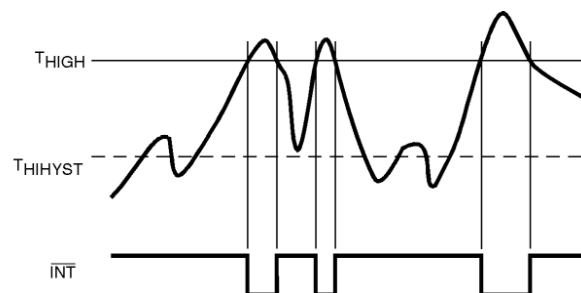

Figure 21. Normal Comparator Mode
**Normal Comparator Mode** is shown in Figure 21 and operates in the following way:  $\overline{T\_CRIT\_A}$  is disabled. Exceeding  $T_{HIGH}$  causes an interrupt that will remain activated until the temperature is less than or equal to  $T_{HIGH}$ .  $T_{LOW}$  is disabled.